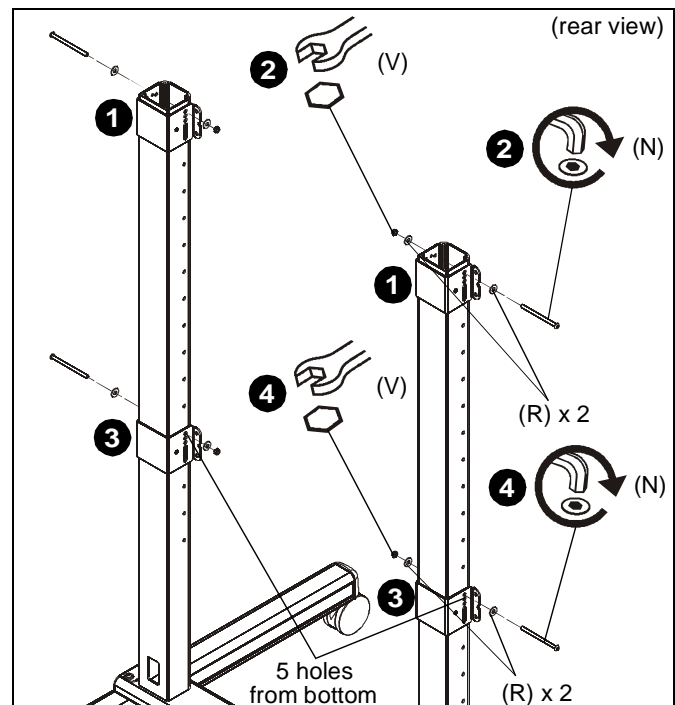

Figure 3
1. Place clamp brackets (P) on columns with the top hole on the brackets lined up with the top holes on the columns. (See Figure 3)
2. Use 5/16-18 x 4 1/2" button head cap screw (N), two 5/16" washers (R) and 5/16-18" lock nut (V) to secure each clamp bracket (G) to column. (See Figure 3)
- Place clamp brackets (G) on columns with the top hole on the brackets lined up with the fifth holes from the bottom of the columns. (See Figure 3)
- Use 5/16-18 x 4 1/2" button head cap screw (N), two 5/16" washers (R) and 5/16-18" lock nut (V) to secure each clamp bracket (G) to column. (See Figure 3)